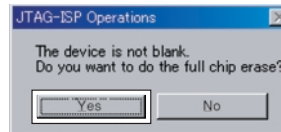

Fig. 5 JTAG-ISP Operations screen
- 9) Click the [Execute] button, and the following JTAG-ISP Operations screen appears. (Fig. 5)